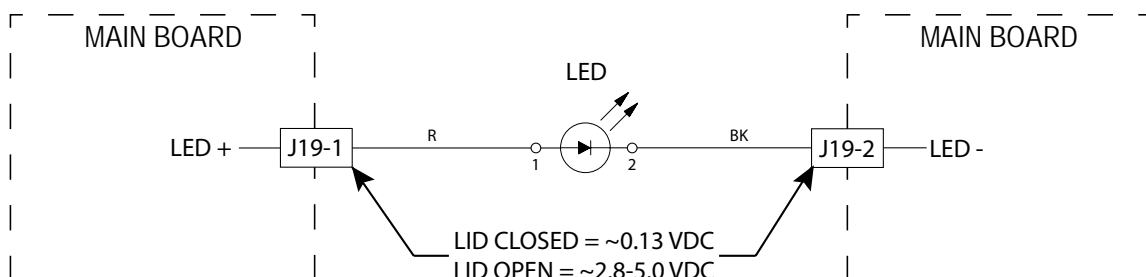

Figure 2 - Basket Light Strip Circuit
1. Once the fault/error codes are cleared, verify that the bulk dispense container in the bulk dispense drawer is filled with detergent before proceeding. Enter Service Test Mode described on page 2-3. Follow the Service Test Mode procedure to activate the bulk dispense pump. After a minimum of 2 minutes, detergent should start to trickle, then drip every few seconds through the detergent dispenser on the front left corner as shown in Figure 2, page 3-19. **NOTE:** The liquid will trickle in small amounts into the detergent dispenser. The following steps assume no detergent flowed after a minimum of 2 minutes while the bulk dispense pump was activated.